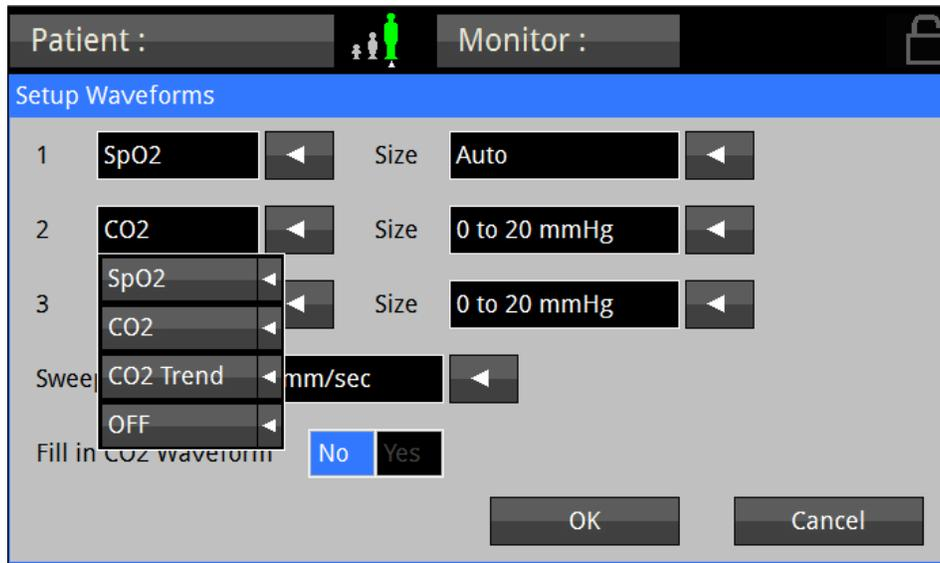

Figure 8: Waveform Setup screen (Oridion CO₂ enabled)
- b. Touch the  adjacent to the waveform selection displayed (Refer to Figure 8 below);